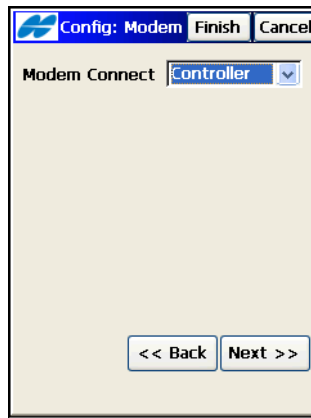

Figure 4-36. Modem Connect
2. On the **Config: Modem** screen (Figure 4-36 on page 4-30) select *Controller* if the modem is connected to the controller or *Receiver* if the modem is internal or external, but connected directly to the receiver.